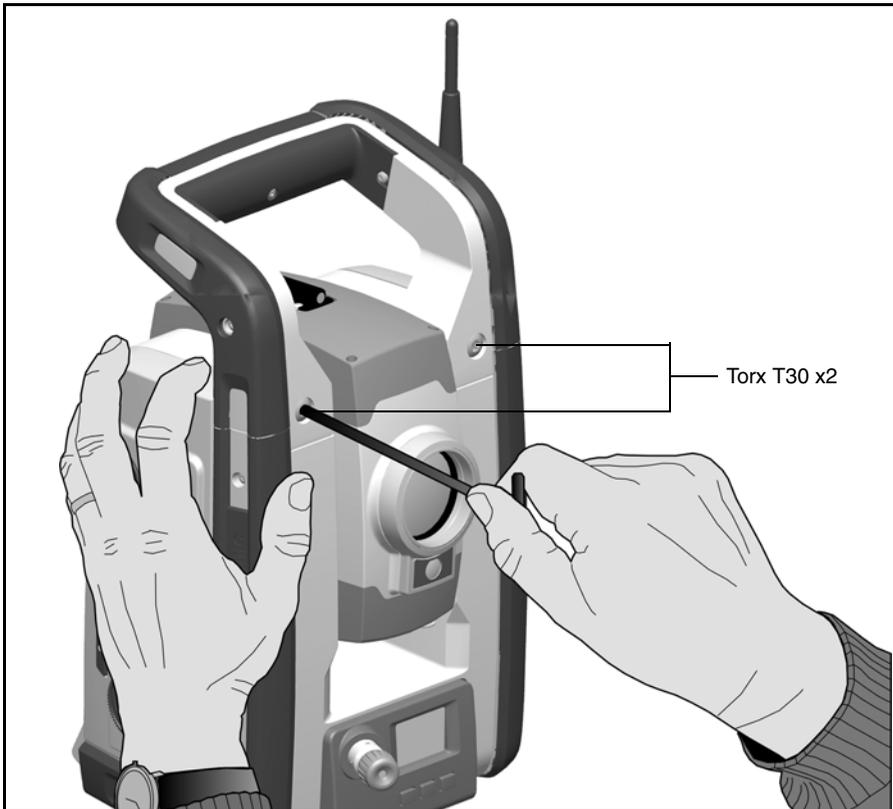
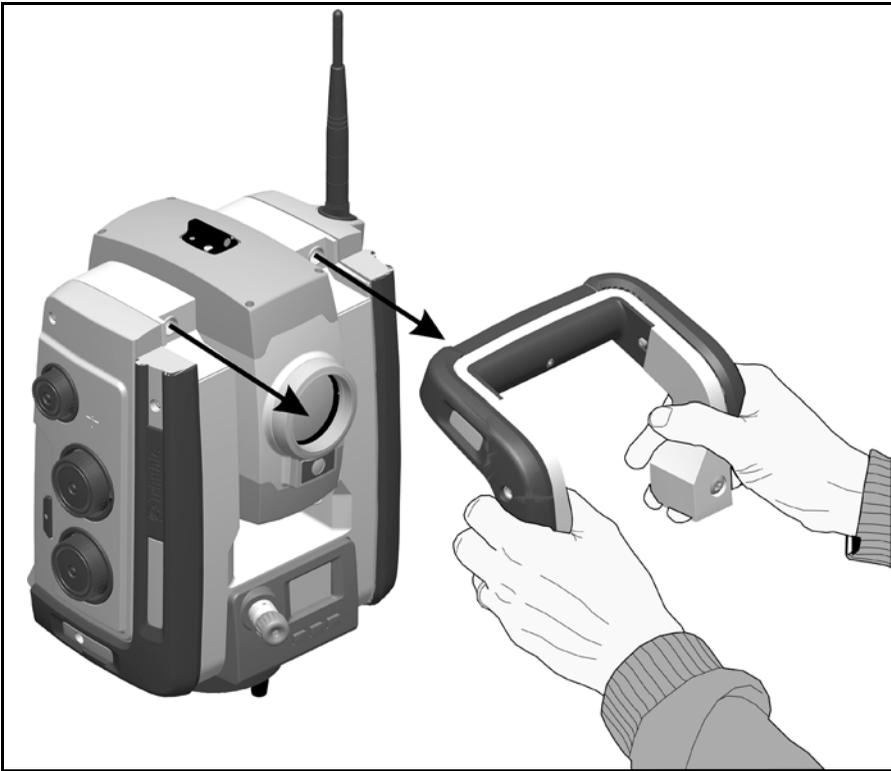

Figure 3.19 Removing the instrument handle
Figure 3.20 Detaching the instrument handle
2. Slide the handle horizontally away from the front of the instrument. See figure 3.19 and figure 3.20